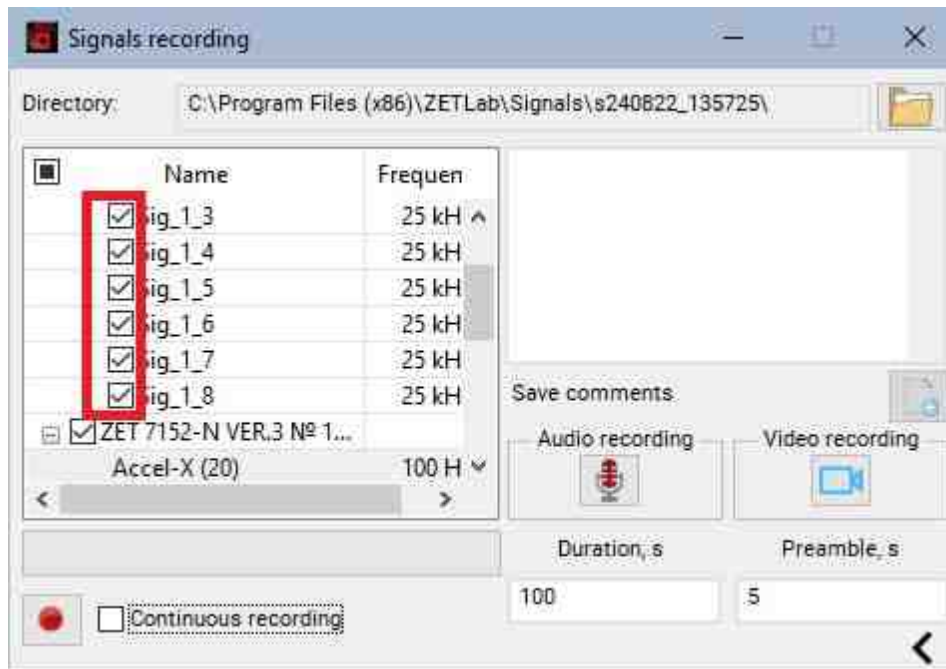

Fig. 2.5 Select channels for recording
- Select the channels whose signals should be registered by activating the corresponding cells (Fig. 2.5).